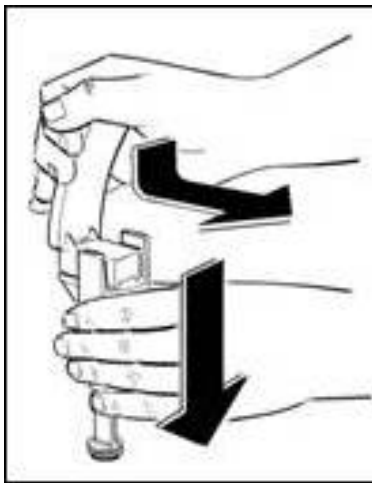

Fig. 35
- Disassemble the tap by keeping the body pressed down and slipping the lever from its seat (Fig. 35).